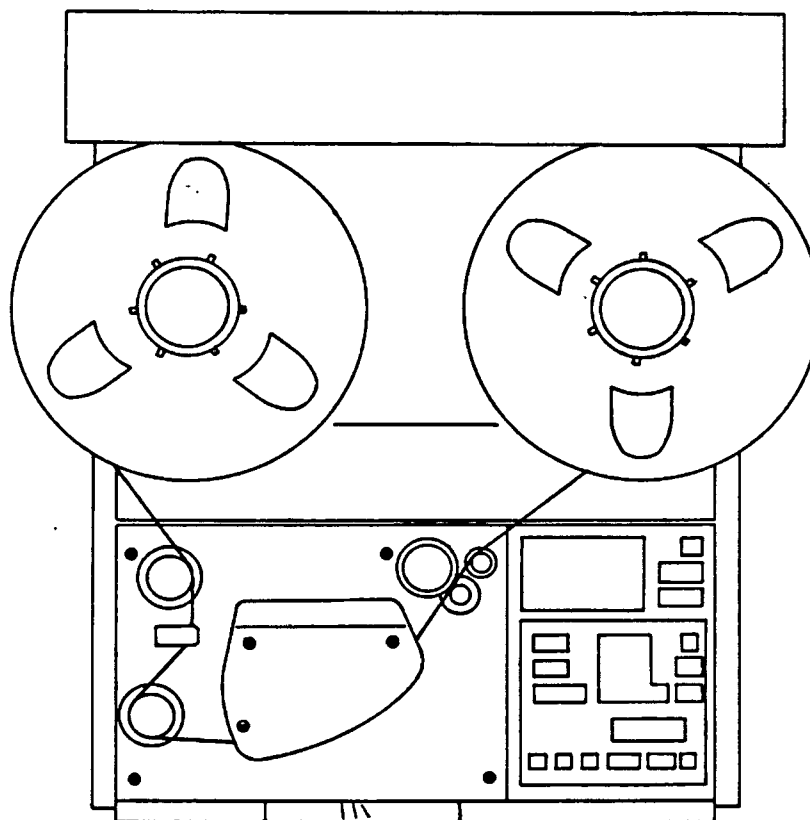

Figure 6-19. KBD Board Access
STEP 2 Remove any tape from the machine. Remove the two securing screws from the rear side of the top rear cosmetic panel and remove the panel. This will expose the two securing screws for the KBD assembly. Remove the two KBD securing screws and carefully lift the KBD/DSP assembly up. This will expose RV2 on the KBD board for adjustment. Place a non conductive material (cardboard, thick paper, etc.) between the KBD/DSP assembly and the CPU board and rest the KBD/DSP assembly on this material. Refer to the drawing shown in Figure 6-19.